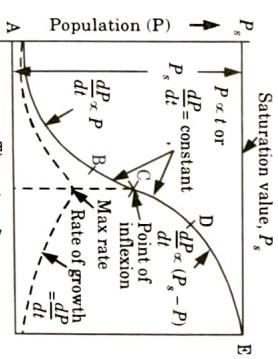

Fig. 1.9.1. Ideal population growth curve, (logistic curve).
- The curve is S-shaped, as shown in Fig. 1.9.1, and is known as logistic curve.